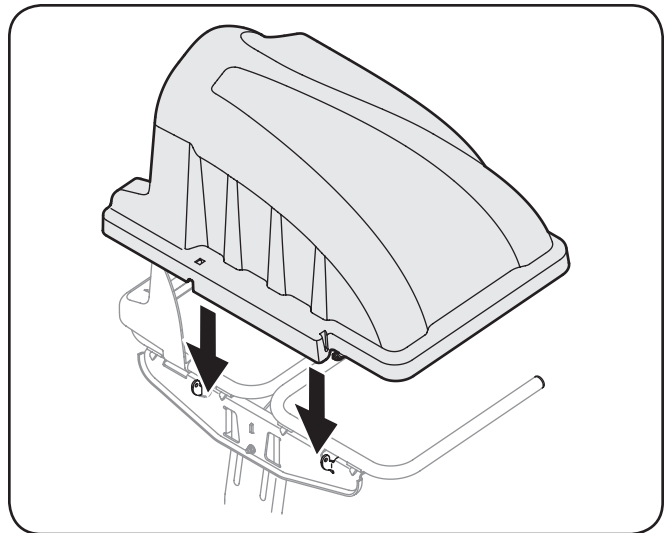

Figure 4-15
5. Install the bagger cover onto the bag support assembly, as seen in Fig. 4-15. The plastic cover goes inside of the two mounting tabs.